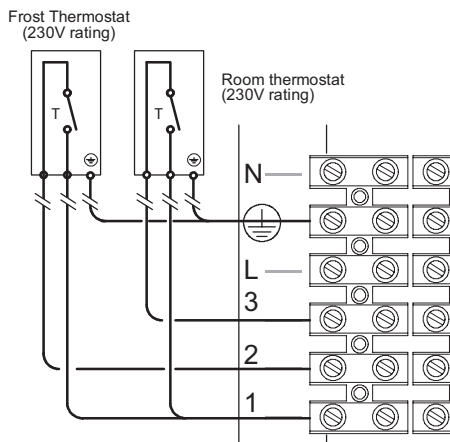
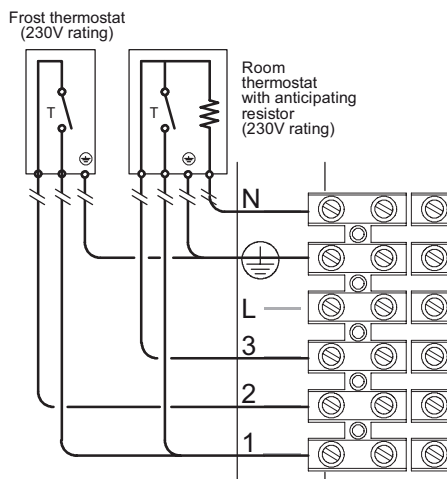

Fig. 6.28
Fig. 6.29
- Connect the frost thermostat between terminals 1 and 2 as shown in Fig. 6.28 or Fig. 6.29.